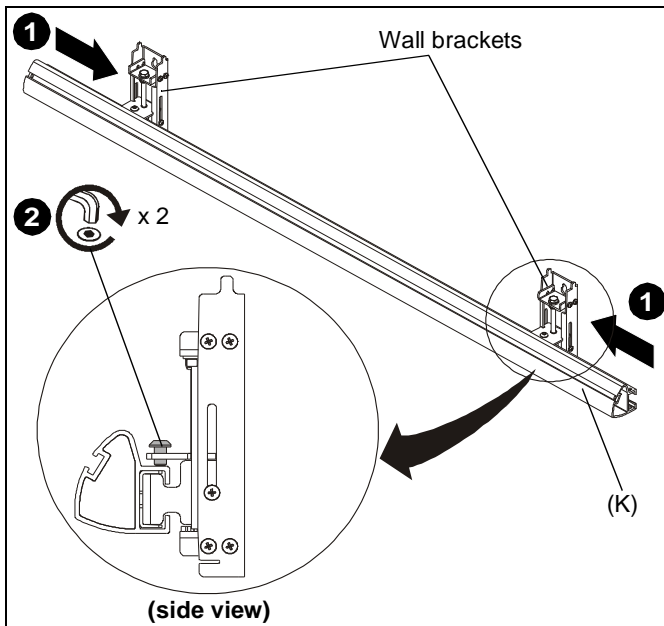

Figure 4
4. Fasten one whiteboard hanger bracket (Z) near lowest position of upright assembly (D) using one knob (R) and one 0.75x.265x1.125 spacer (T) on each adjustable leg (N) at bottom of upright assembly (D). (See Figure 4)
1. Slide wall brackets along wall assembly (K). (See Figure 4)
2. Tighten button head cap screw on each wall bracket to secure wall brackets to wall assembly. (See Figure 4)